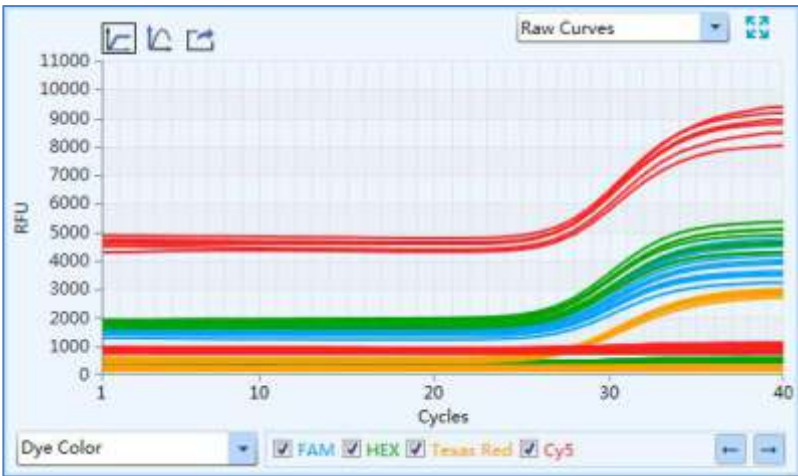

Figure D-9.5 Abs Quant analysis interface - Raw Curves functional module
V. **Raw Curves:** display the diagram of raw amplification curves without subtract baseline, as shown in figure D-9.5. The parameters and function keys of raw curves functional module are same with those of amplification curves functional module.